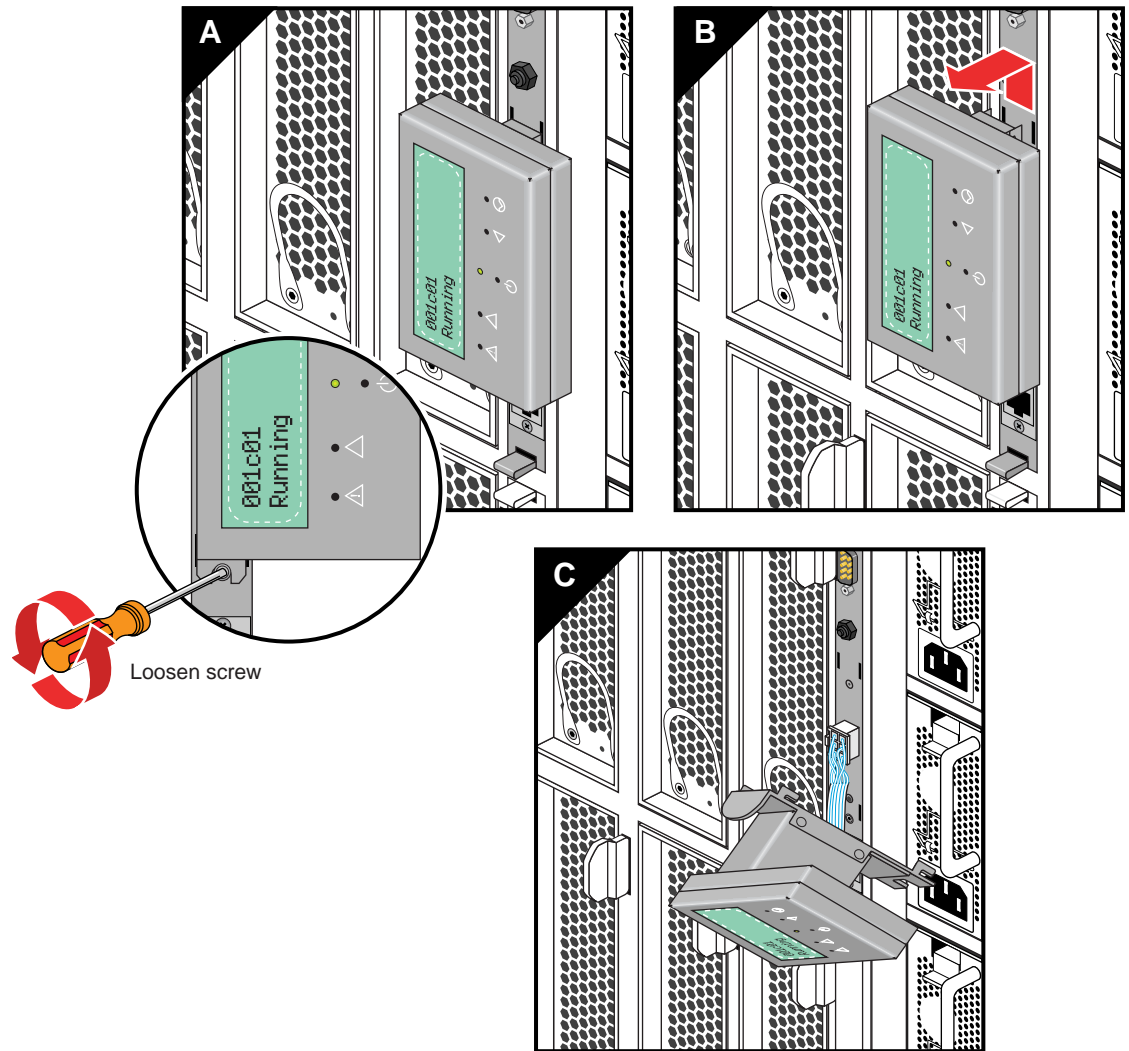

Figure 6-1 Removing the L1 Controller Panel
1. Using a T10 torx driver, loosen the lower screw that holds the display panel to the IRU chassis, see Figure 6-1 on page 77.